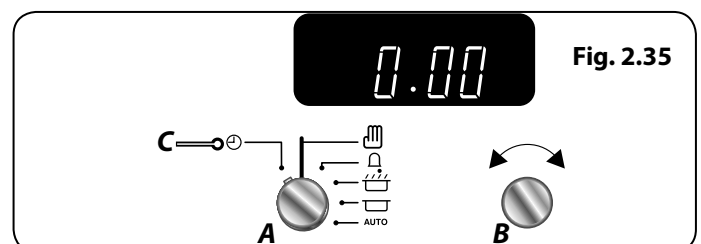

Fig. 2.35
To cancel any automatic settings turn the **Timer (A)** knob to the **Clock (C)** setting and release (**Fig. 2.35**).